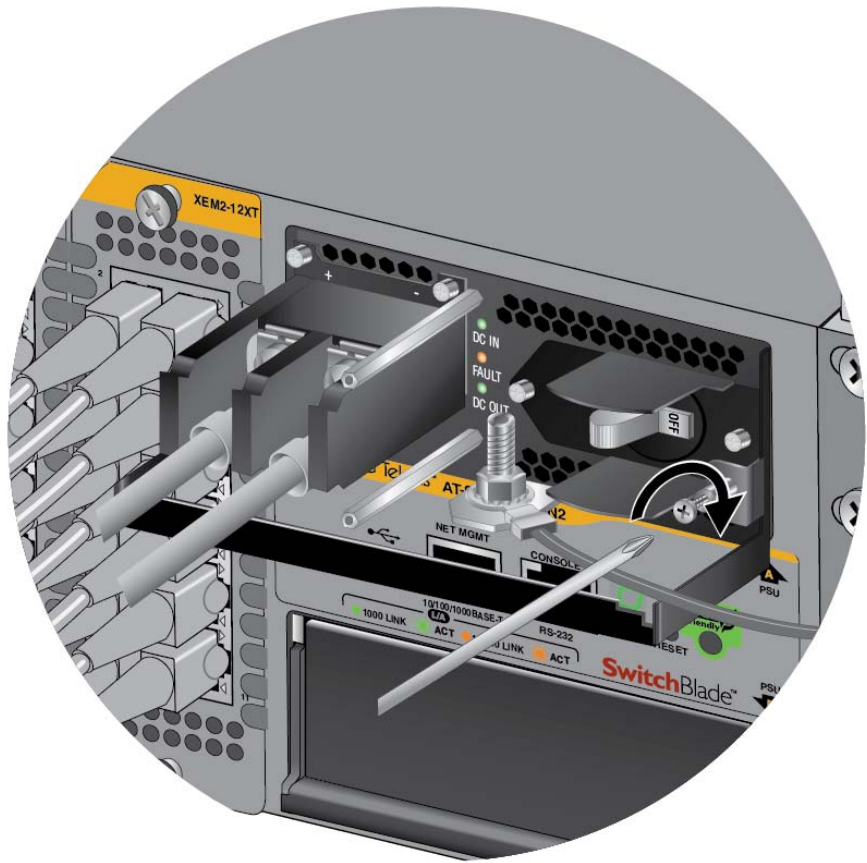

Figure 75. Connecting the Negative (-) Power Wire with a Right Angle Terminal
7. With a #3 Phillips-head screwdriver, connect the negative (-) power lead wire to the negative terminal on the power supply, with the remaining terminal screw removed in step 5. The negative terminal is on the right. Refer to Figure 75 on page 105.